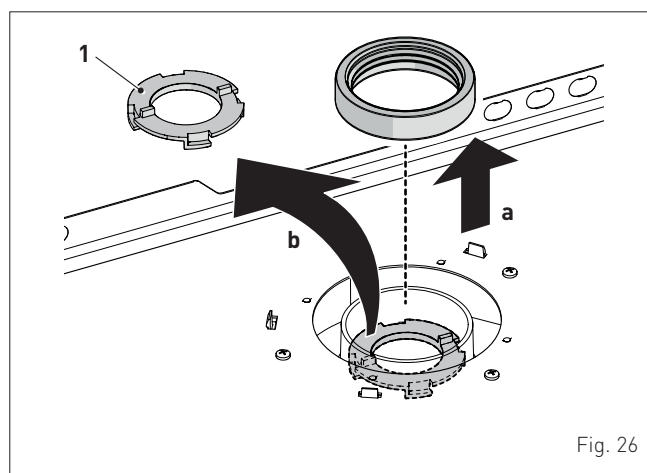

Fig. 26
**For model Edea 30**, beyond a total load loss between discharge and suction of **9 mm H2O**, remove the discharge diaphragm as illustrated in "Fig. 26".
**For model Edea 40**, beyond a total load loss between discharge and suction of **12 mm H2O**, remove the discharge diaphragm as illustrated in "Fig. 26".